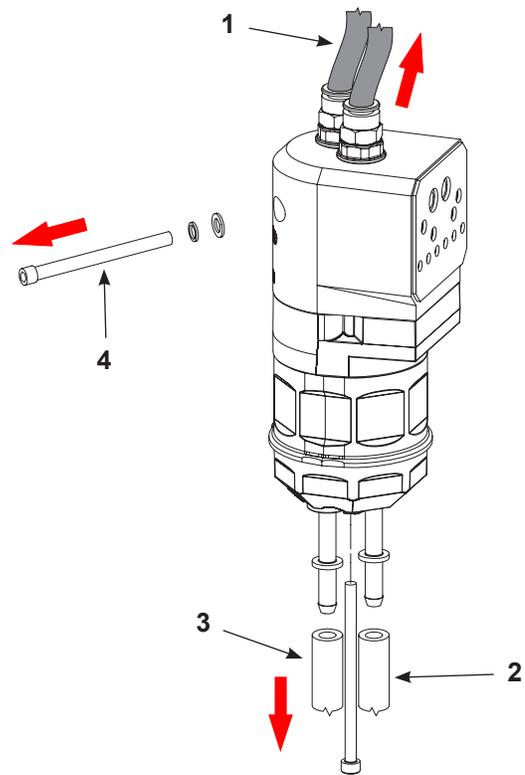

Figure 18 Retrofit Pump Disassemble Preparation
1. See Figure 18. Disconnect the purge air lines from the top of the retrofit pump (1) where applicable.